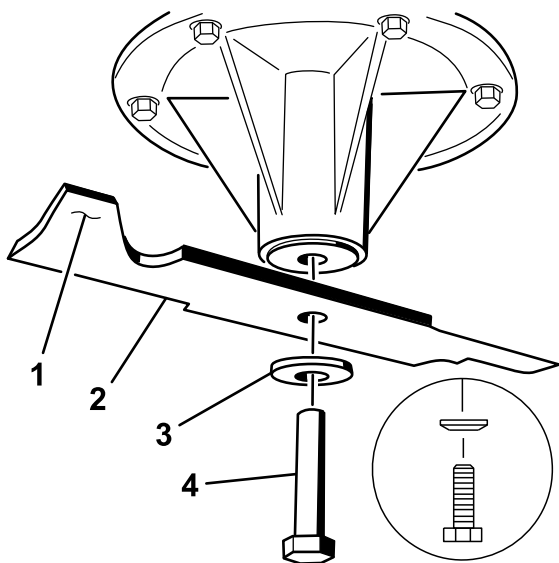

Figure 78
2. Remove the blade bolt, curved washer, and blade from the spindle shaft (Figure 78).
1. Install the blade onto the spindle shaft (Figure 78).
2. Install the curved washer and blade bolt (Figure 78).